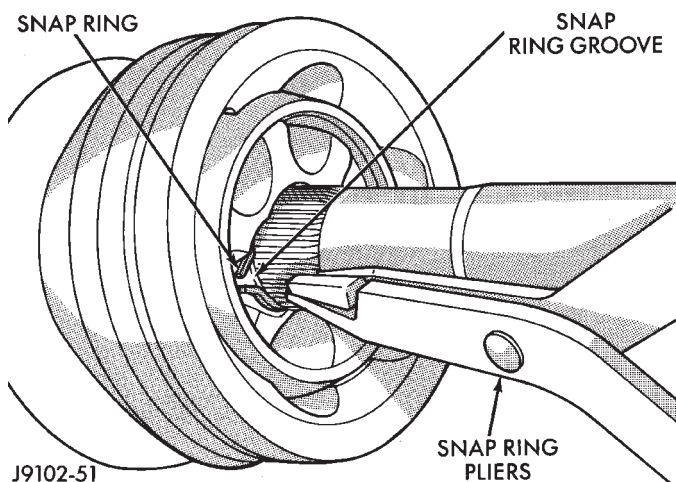

Fig. 13 Outer C/V Joint Removal
(3) Clamp the shaft in a vise (with soft jaws). Support the outer C/V joint.
(4) Use snap ring pliers to release the clip from the groove.
(5) Slide the outer C/V joint from the shaft (Fig. 13).